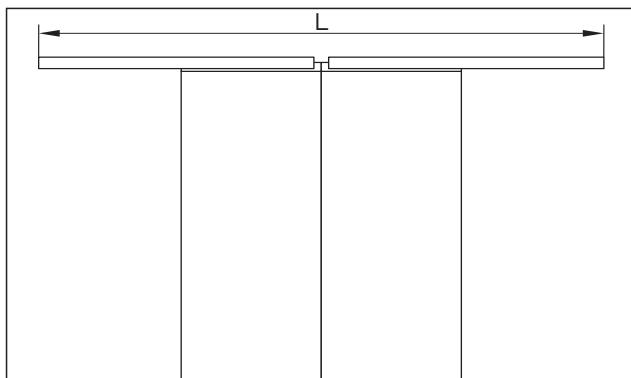

Fig. 5 Overview of mounting on the wall
1. Trim the fixing bracket on both sides so that it is equal to the drive length L (Fig. 5).